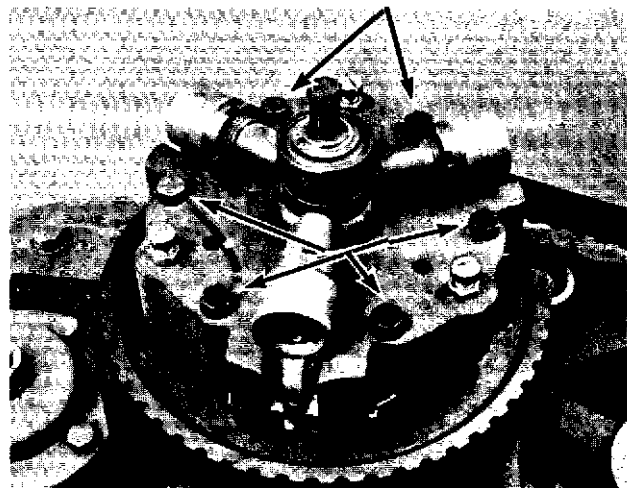
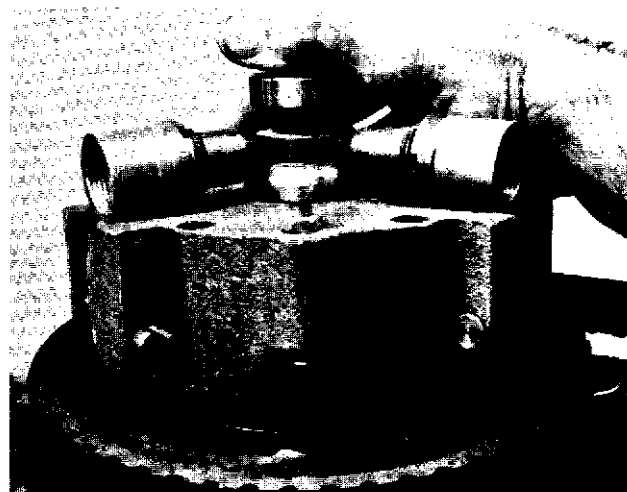

Fig. 9-4
Fig. 9-5
- (5) Remove the six hex head bolts (Fig. 9-4) and lift the clutch arm plate (Fig. 9-5) off the driven gear.